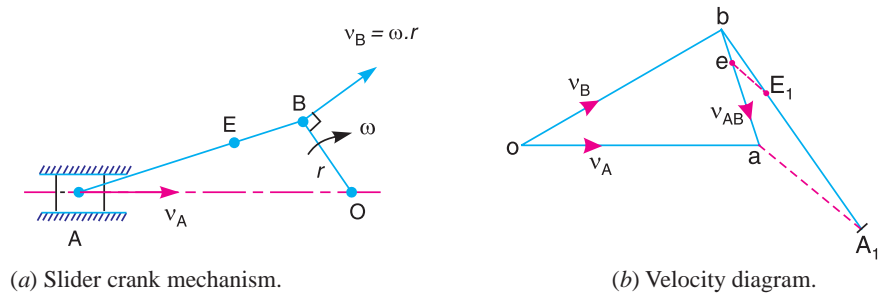

Fig. 7.5
A slider crank mechanism is shown in Fig. 7.5 (a). The slider A is attached to the connecting rod AB . Let the radius of crank OB be r and let it rotates in a clockwise direction, about the point O with uniform angular velocity ω rad/s. Therefore, the velocity of B i.e. v_B is known in magnitude and direction. The slider reciprocates along the line of stroke AO .
- From any point o , draw vector ob parallel to the direction of v_B (or perpendicular to OB) such that $ob = v_B = \omega.r$, to some suitable scale, as shown in Fig. 7.5 (b).